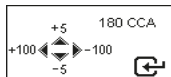

Fig.27
- To adjust the CCA value, press ◀ or ▶ key will increase or decrease the value by 100 while ▲ or ▼ key will increase or decrease the value by 5 as shown in Fig.27 below.